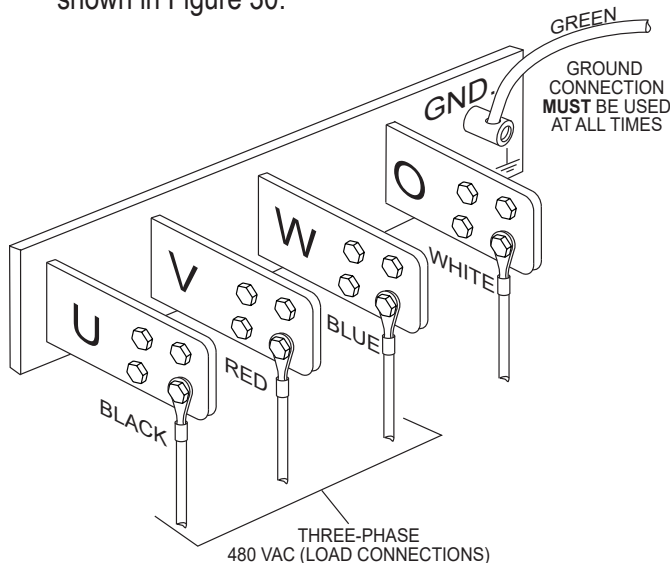

Figure 30. UVWO Terminal Lugs (3-Phase 480-Volt Connections)
2. Connect the load wires to the UVWO terminals as shown in Figure 30.